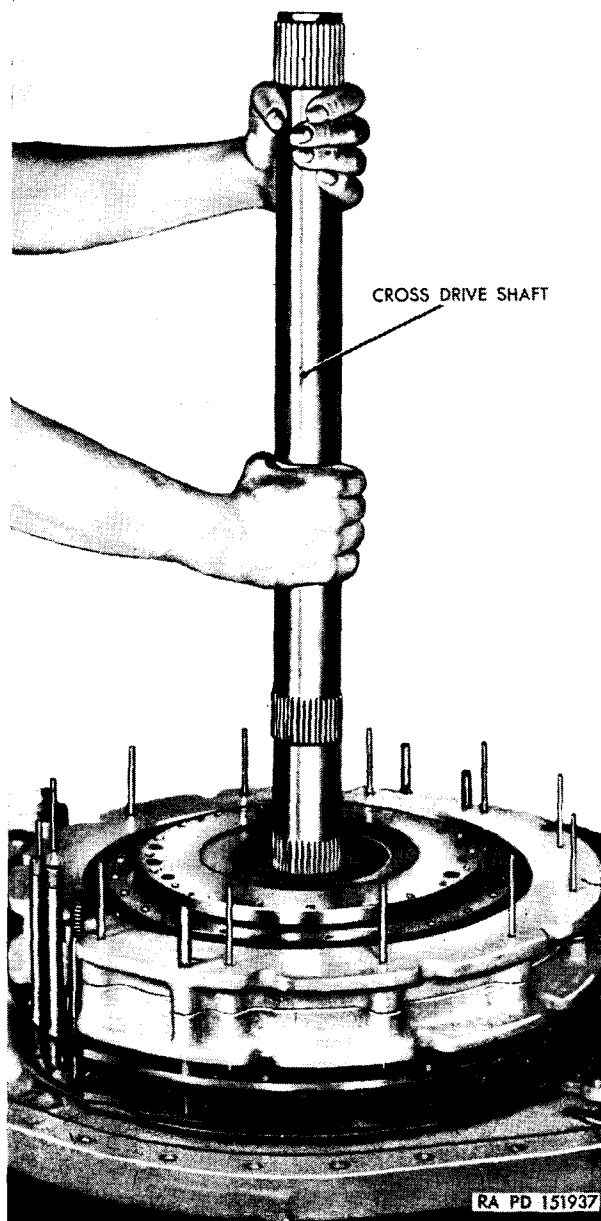

Figure 198. Removing or installing cross-drive shaft.
- (3) Remove the cross-drive shaft (fig. 198).